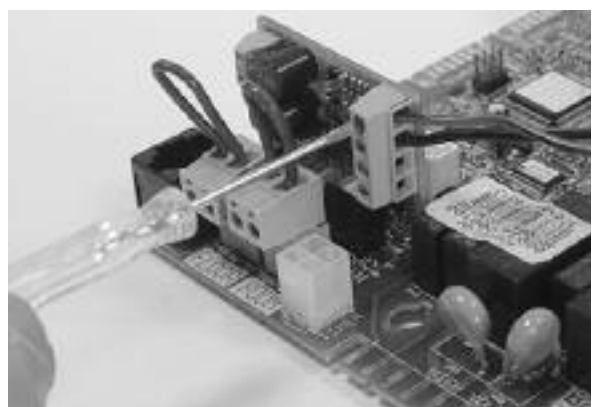

Fig. 112
- Install the interface PCB supplied in the external sensor kit on the main PCB (see Fig. 112);
- Connect the wires between the external sensor and the interface PCB* (see Fig. 112).
- * ENSURE THAT THE WIRES FOR THE EXTERNAL SENSOR ARE CONNECTED TO THE TERMINALS INDICATED IN FIG. 112.